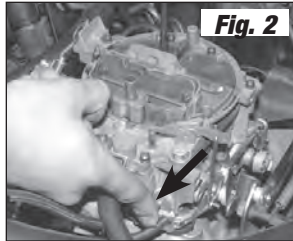

**Figure 1 - Fittings and Vacuum Port Locations**
- Connect all vacuum hoses to their proper location on the carburetor (See Fig. 1). Replace hoses that appear brittle or cracked to prevent vacuum leaks.